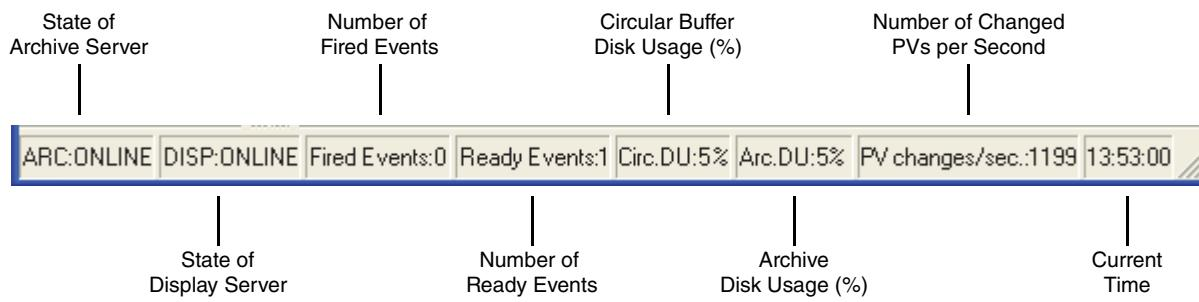

Figure 3-2. Status Bar
The status bar, which appears at the bottom of the Configurator Client window, is shown in Figure 3-2.
- ◆ ONLINE – server is running, configured, and on-line (that is, the server has established a connection to external devices). Figure 3-2 shows that both the archive server and the display server are both on-line.